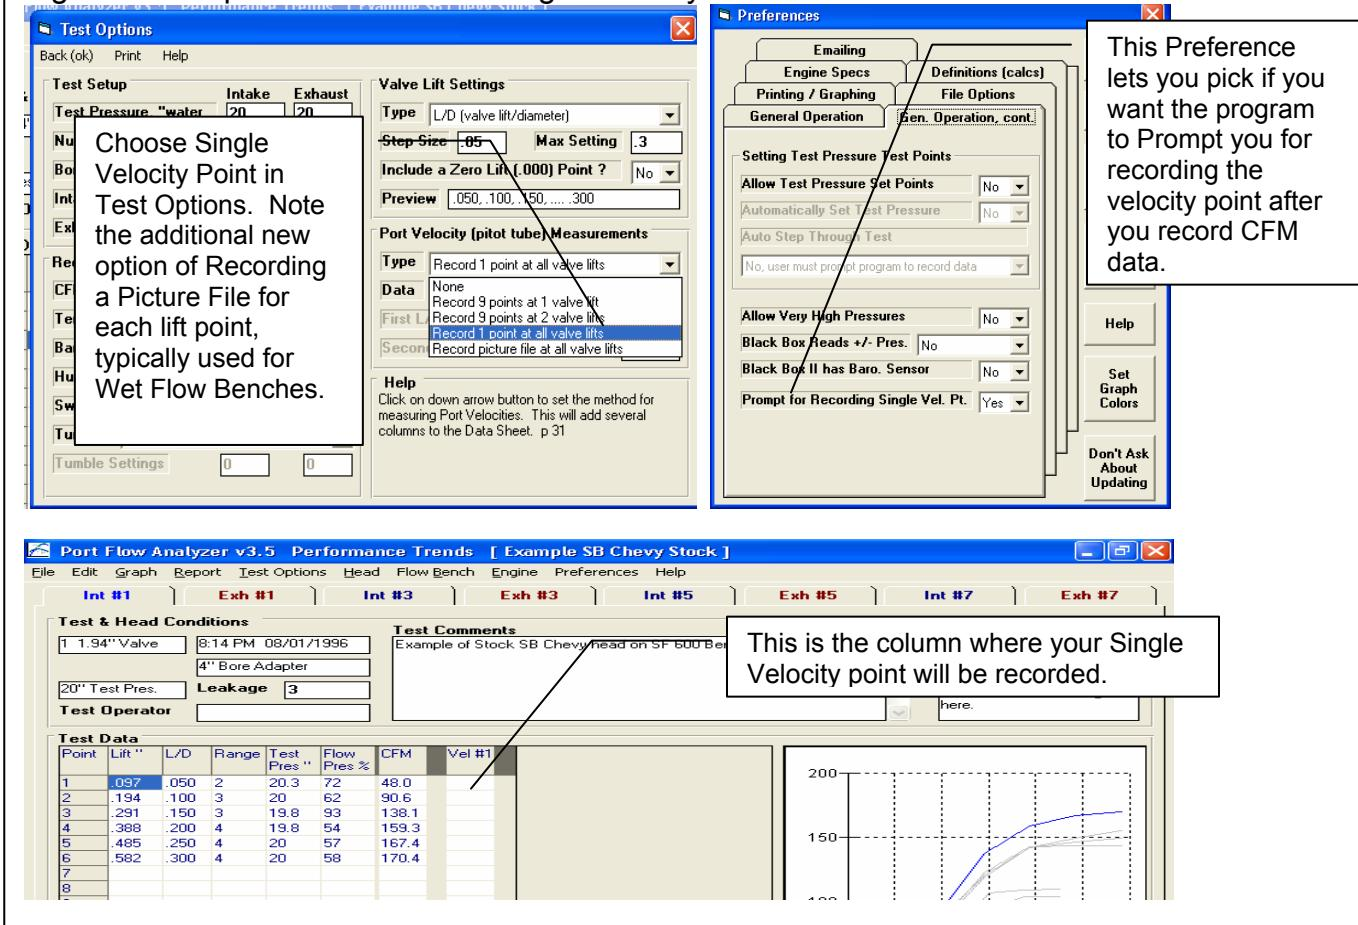

Figure A24 New Cyl-Cyl Comparison Reports
- Added several new features for doing Cylinder to Cylinder comparison reports. (Fig A24) When you choose a 'Cyl-Cyl' report type, three new options appear:
- Program now has added ability to specify which Ports to Graph and/or Report with a new 'Pick' option for Which Cylinders in the 'Graph' and 'Report' Options screens. (Fig A24)
- Columns in History Log have been slightly rearranged, and columns now include Which Cylinders, which are the cylinders to Report or Graph if you choose the 'Pick' option. (Fig A24)